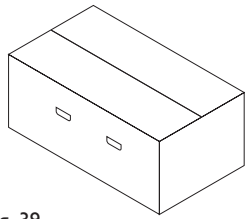

Fig. 39
1. Remove staples, open flaps and remove the cardboard sheet. Remove the polystyrene side pieces and literature. Two people can then lift out the boiler (Figs. 39 & 40)